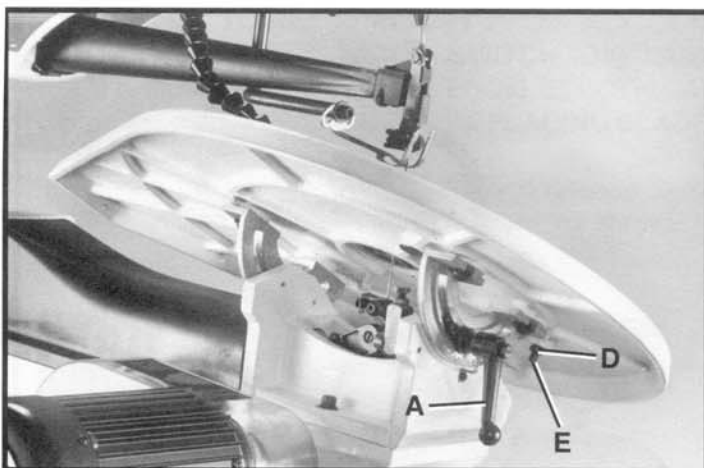

Fig. 33
7. If the table is not at 45 degrees to the blade, loosen table lock handle (A) Fig. 33, and lock nut (D).
8. Thread screw (E) Fig. 33, in or out until blade is 45 degrees to table. Then tighten table lock handle (A) and lock nut (E).